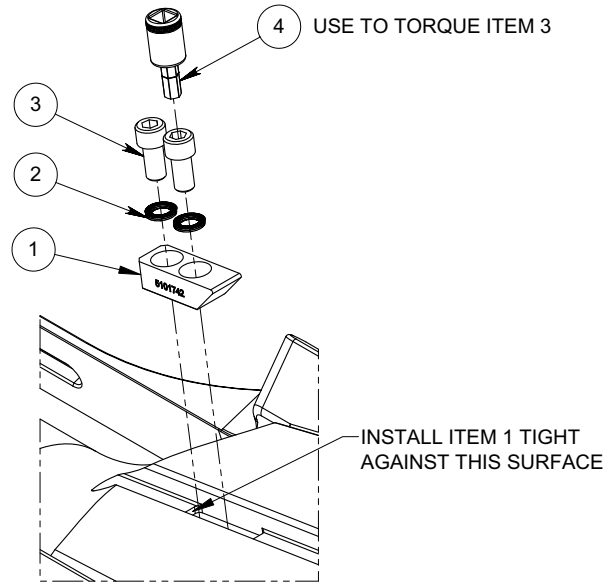

Figure 5
4. Grapple Retainers Procurement – See Figure 5 on page 5.